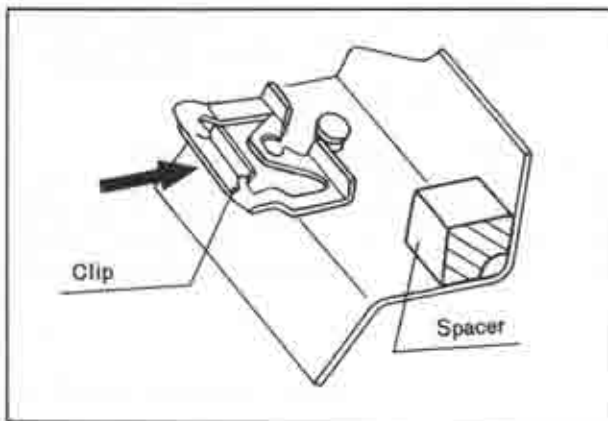

Fig. 14-31 Installing mould retaining clip
5. Insert each mould retaining clip to the clip insertion portion in the manner shown in Fig. 14-31. Replace the retaining clips as required to insure adequate mould retention.